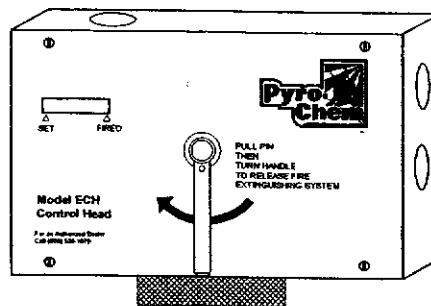

Figure 2-5. Electric Control Head.
The Model ECH electric control head is an electrically operated control head which can be connected to the PCL-240/350/550 cylinder valve. This control head will support an electric thermal detection system, a remote mechanical pull station (Model RPS-M), and a mechanical or electric gas shutoff valve. It will not support a fusible link detection system. A miniature electric switch (Model MS-SPDT) is included. The Model ECH control head is available in both 120 VAC (Model ECH-120) and 24 VDC (Model ECH-24). It is equipped with a local manual control handle that allows for mechanical system actuation. Operation of the local manual control requires removing the pull pin and rotating the handle clockwise. The Model ECH control head can actuate a maximum of three (3) cylinders. See Figure 2-5.